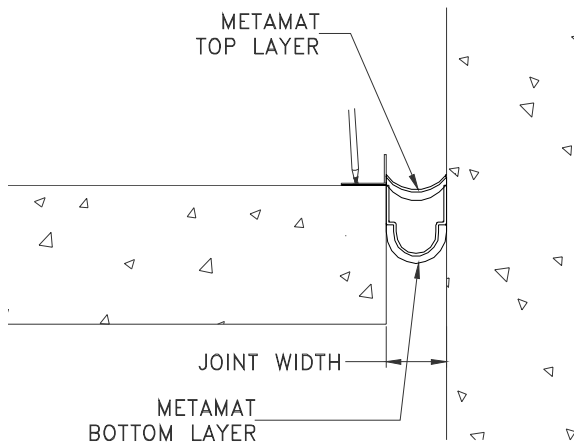

Figure 3
STEP 4. Select the joint cover system base member. Place the base member into its installed position over the MetaMat fire barrier's flanges. Using the joint cover system base member as a template, mark the locations for the anchor holes on the foil flanges (Figure 3). Anchor spacing is 20" o.c. with anchors a minimum of 2" from each end of each base member.